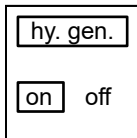

Fig. 73: Hydrogeneration display view
- Hydrogeneration must be activated under "**Fig. 73: Hydrogeneration display view**".